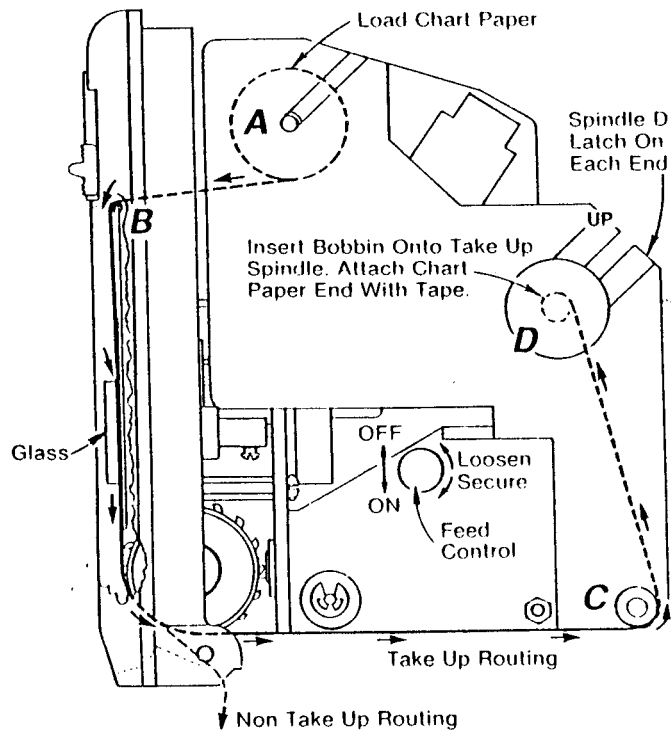

Fig. 9
4. To insert or remove chart paper, place recorder in horizontal position and press the release button in the direction shown in fig. 10. Raise the recorder mechanism to a vertical position until it locks. Remove feed shaft A (see fig. 9) and place chart roll on spindle. Remove tape on roll and retain tape for securing chart on take-up spindle D. Unroll about 12" to 15" and route paper over top edge of scale plate B underneath glass, over the sprocket wheels, to the rear and over the idle roller C up to the cardboard bobbin mounted on take-up spindle D. Secure edge of chart to bobbin with tape. Make sure the sprocket holes in the paper engage the sprocket wheels. Be sure that feed control is tight and in the right position. The word "on" must be visible. Press in the idle roller extension C to allow the recording mechanism to move back down into case and lock into position. Replace cover by positioning the "U" bend onto the plastic projections and snap front down. Make sure chart paper is not binding with the cover in place. For "non-take-up" recording, route chart through bottom slot as shown in fig. 9.